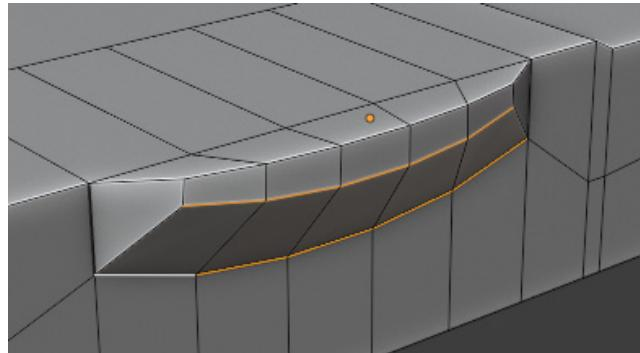

Figure 7.14 – A side shape
14. Repeat *Step 13* multiple times to make the edges more relaxed. Do this until your result looks like *Figure 7.14*: